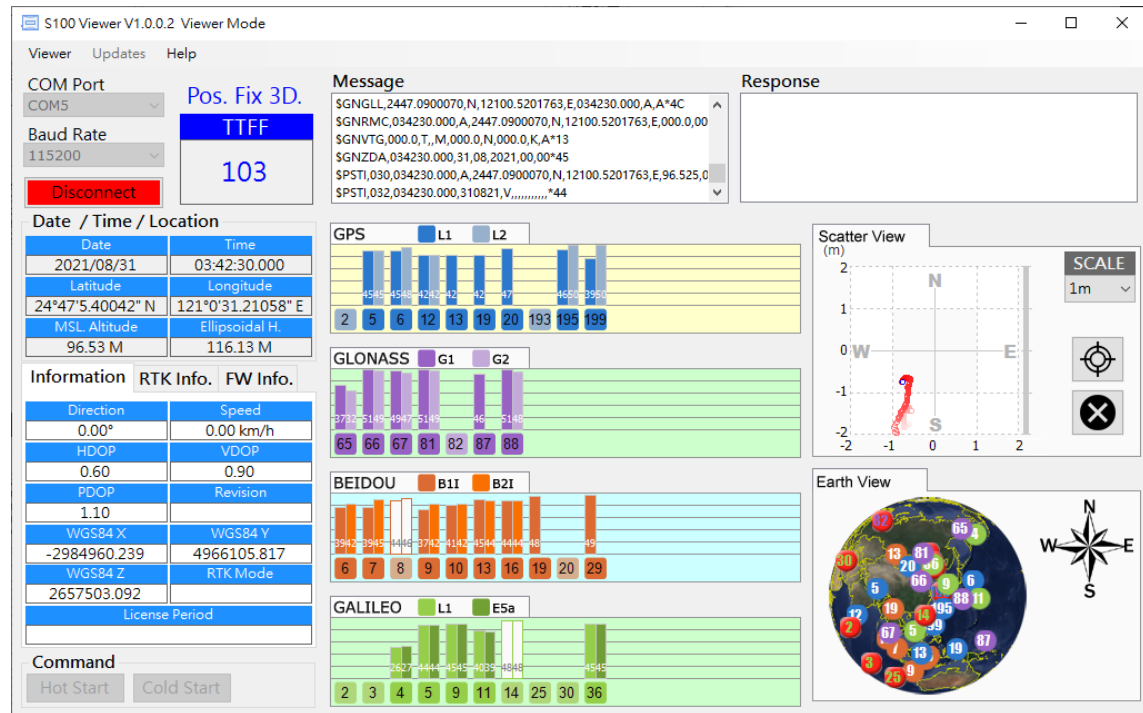

Figure 3-5
6. NMEA output should be seen on the Message screen. If having good sky view with sufficient number of satellites tracked, the signal bar will turn solid and have position fix. See Figure 3-5.